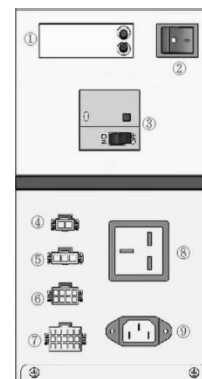

Figure 5.7 Electrical control box
The temperature control board (① in the figure 5.7) is used to control the refrigerator's temperature.
The machine power switch is blue (③ in the figure 5.7) and located on the middle of box. The power switch is used to disconnect AC 110V/220V power to the machine. There have two button, test(yellow) and reset(gray).
The red switch (② in the figure 5.7) in the upper right corner controls the temperature control board.
This is the grounding plug (④ in the figure 5.7), it is the yellow-green cable. It connects all the ground wires of the machine.
There have a AC output plug (⑤ in the figure 5.7), its three lines are L, N and GND. The voltage it supplies is the AC voltage input to the machine.
This plug (⑥ in the figure 5.7) is connected to the refrigerator. It supplies power to the compressor, evaporator fan and condenser fan.
This plug (⑦ in the figure 5.7) is connected to the main board. It provides DC 24V to the main board, and the communication between the temperature controller and the main board.
This plug (⑨ in the figure 5.7) is the AC
power input to the machine. This outlet (⑧ in the figure 5.7) outputs the AC power, it same to ④.